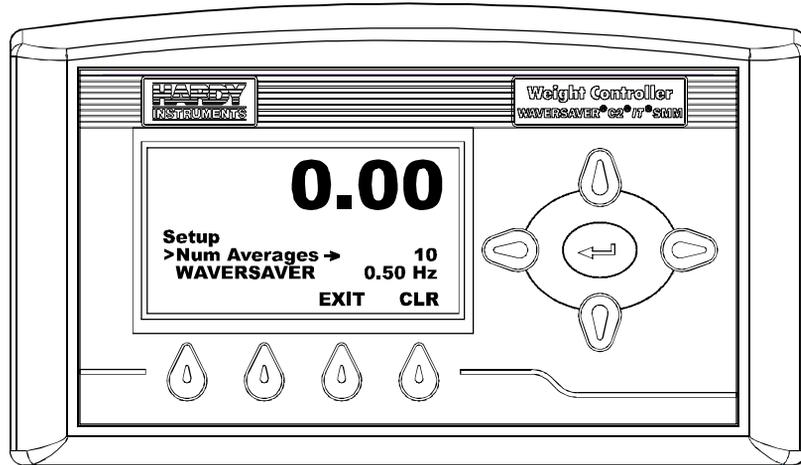

FIG. 71 SETUP MENU/SELECTING NUM AVERAGES
Step 1. Press the Down Arrow button until the cursor is in front of Num Averages. (See Fig. 71) The current number of averages is displayed.